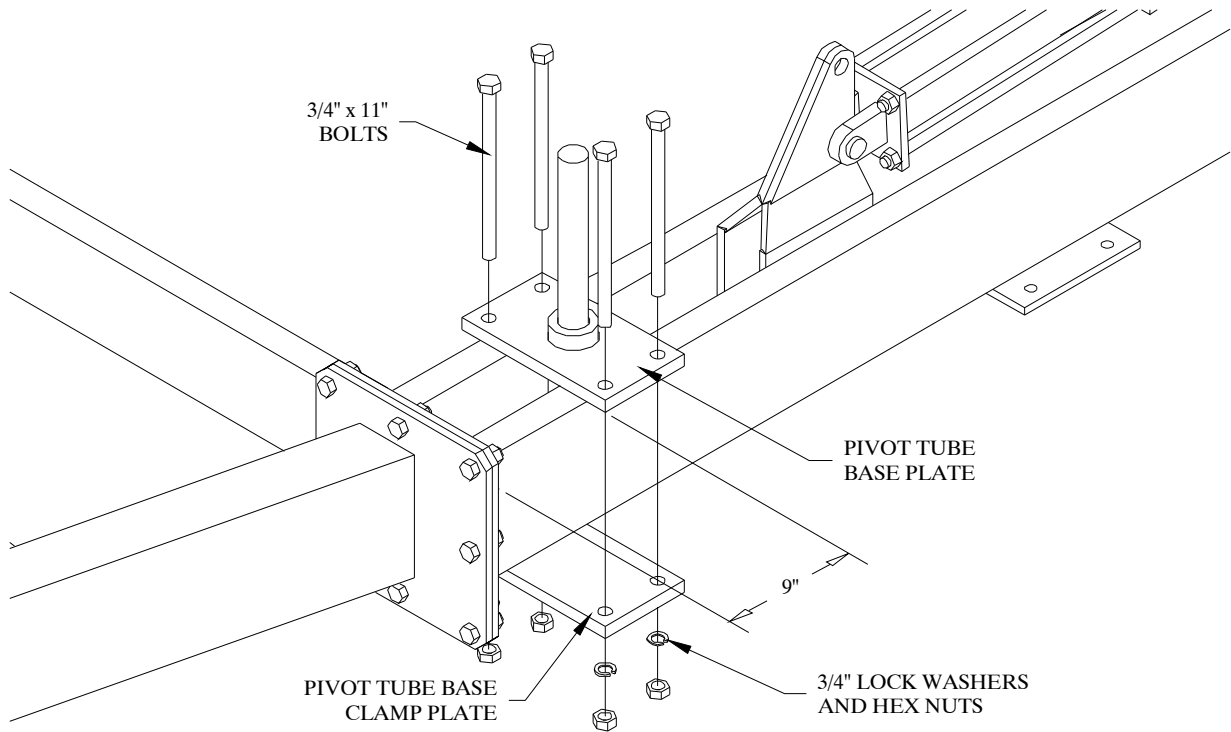

**Figure 24**
2. Bolt the right tie-bar half to the tab on the back side of the right transport wheel clamp plate. Refer to Figure 24. Use a 7/16" x 2" bolt and lock nut.